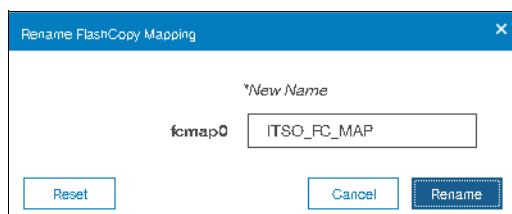

Figure 10-63 Changing the name for a Consistency Group
3. Enter the new name that you want to assign to the Consistency Group and click **Rename**, as shown in Figure 10-63.